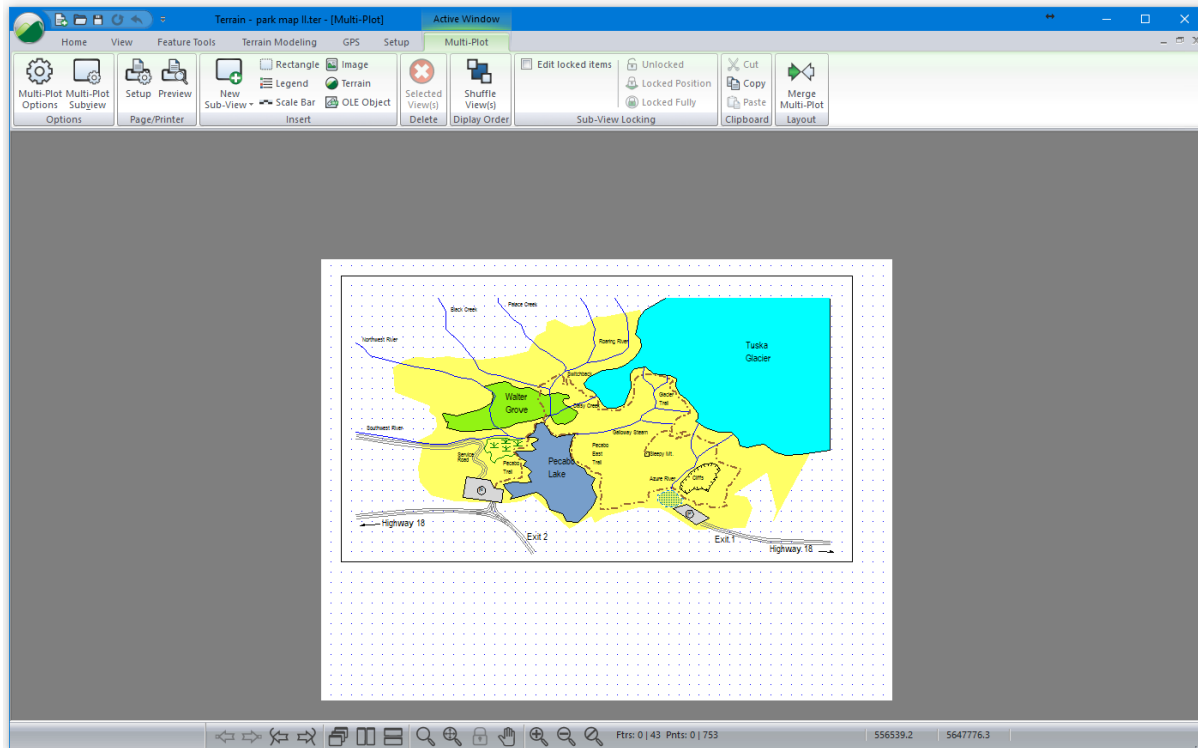

Figure 3-31: Multi-Plot Plan Sub-View of *plan1.ter*
6. Resize and reposition the Plan Sub-View until it appears approximately in the top 2/3 of the output sheet (see Figure 3-31).